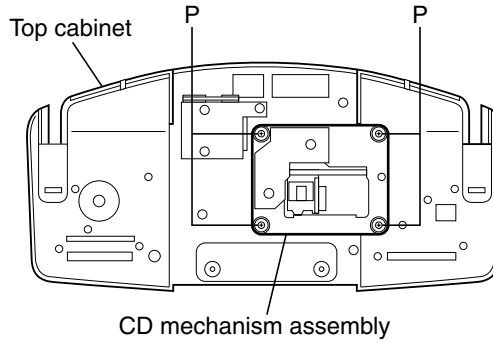

Fig.21
■ Removing the CD mechanism assembly (See Fig.21)